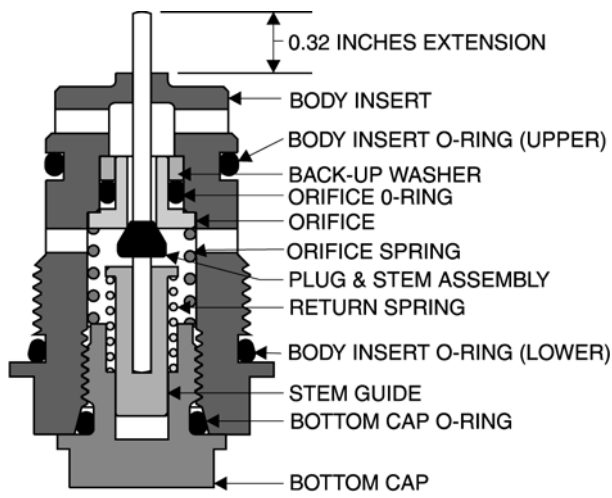
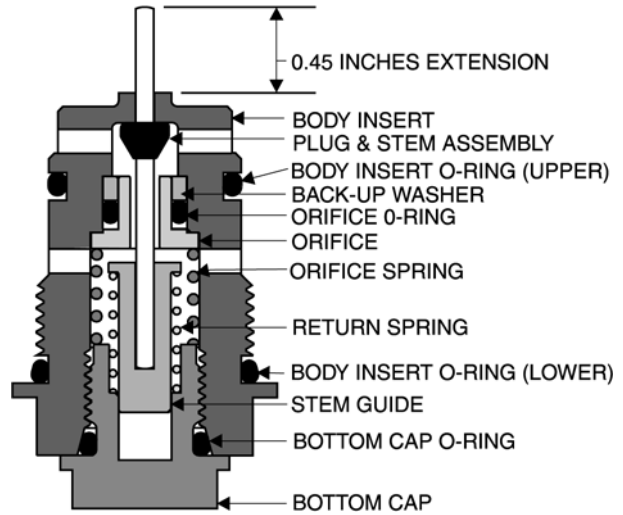

Figure 20
Figure 22
- 3. CONTROL ACTION:** Inspect to make sure the Body Insert Assembly (Cartridge) is in the correct operational mode. Remove the Body Insert Assembly and measure the stem extension from the Body Insert. (Refer to the Maintenance section of this manual - Figure 20 & Figure 22, page 9.)
7. Refer to Figure 20 & 21. Stack the following parts on the bottom cap in the order shown in the drawing:
7. Refer to Figure 22 & 23. Stack the following parts on the
**NOTE: The plug on the Stem will be ABOVE the Orifice Assembly for a Back Pressure or Relief Mode (refer to Figure 22).**
**The plug will be BELOW the Orifice for the Pressure Reducing Mode (refer to Figure 20).**
- The Series 20H and 20HS Pilots in back pressure mode require a delrin orifice and all stainless steel stem/plug in the Body Insert (Cartridge). Assemble the orifice assembly the same way you would the Back Pressure Body Insert (Cartridge) with the stainless steel orifice and stainless/nitrile stem/plug assembly. (Refer to Figure 22 & Figure 28).